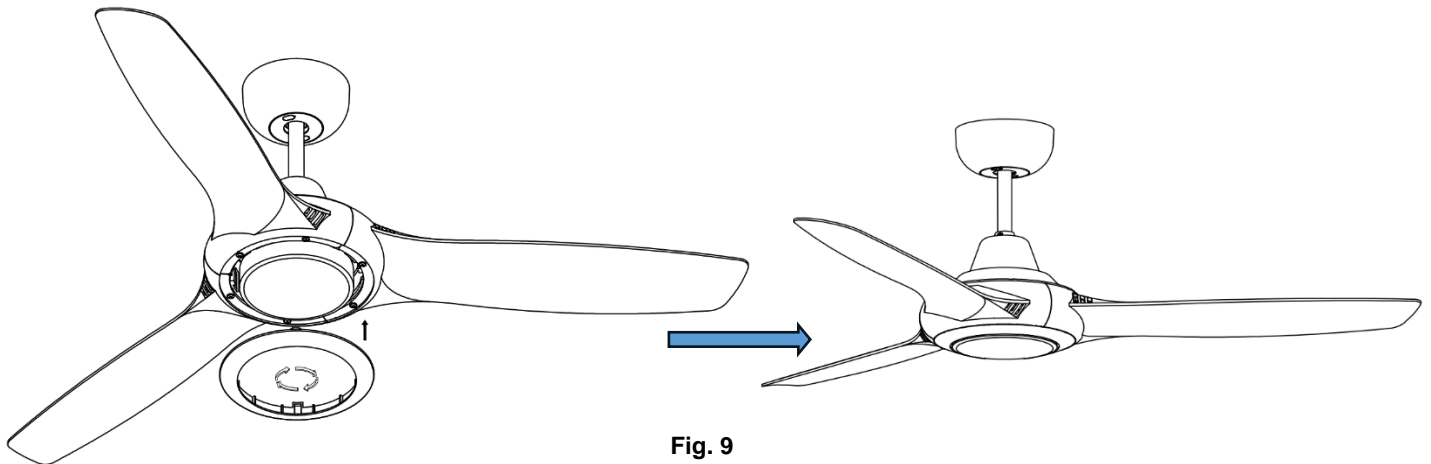

Fig. 9
5. Install the lower motor housing back onto the fan body. (Fig. 9)